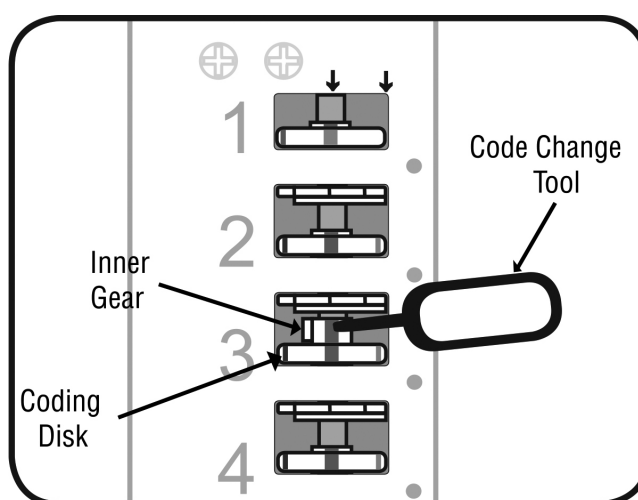

Fig.2
- 4 Choose your new operating code. To change how a button is set in the code – insert the code change tool (**as per fig.2**) into the small hole in the top of the inner gear and this allows this to be lifted upwards, this will expose a red line on the inner gear (**as per fig.2**).